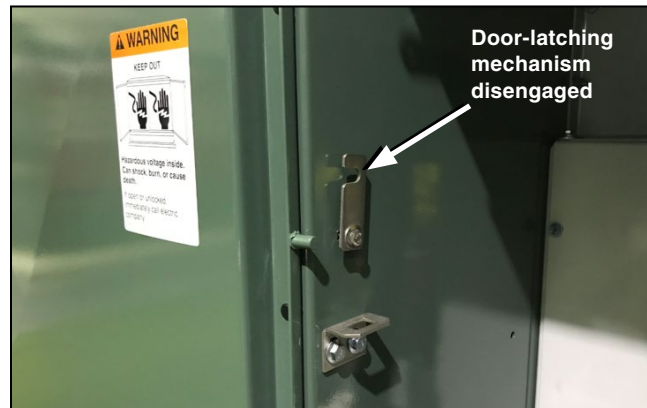

Figure 4. The left-door latching mechanism disengaged.
- STEP 3.** Disengage the left-door latching mechanism by turning the latch clockwise. See Figure 4.